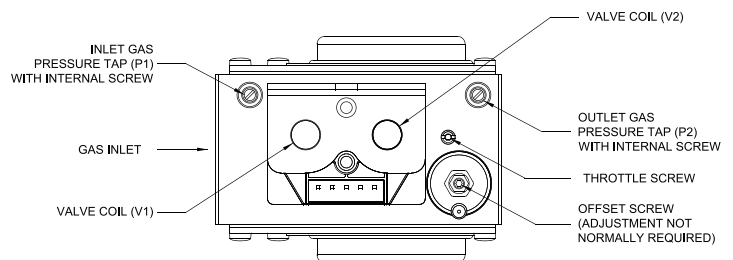

Figure 49: Gas Valve Detail
Make sure that all adjustments at high fire are made with the throttle, not offset screw (see Figure 49). The offset screw has been factory set using precision instruments and must never be adjusted in the field unnecessarily.
- If high fire O_2 is too low (CO_2 is too high), increase O_2 (decrease CO_2) by turning the throttle screw clockwise in 1/4 turn increments and checking the O_2 (or CO_2) after each adjustment. If boiler is equipped with 2 gas valves, throttle screw adjustments must be done to both gas valves equally and simultaneously. Refer to Figure 49 for location of throttle screw. Verify CO air free is less than 200 ppm.
- If high fire O_2 is too high (CO_2 is too low), decrease O_2 (increase CO_2) by turning the throttle screw counter-clockwise in 1/4 turn increments and checking the O_2 (or CO_2) after each adjustment. If boiler is equipped with 2 gas valves, throttle screw adjustments must be done to both gas valves equally and simultaneously. Refer to Figure 49 for location of throttle screw. Verify CO air free is less than 200 ppm.
- If low fire O_2 is too low (CO_2 is too high), increase O_2 (decrease CO_2) by turning offset screw counterclockwise in less than 1/8 turn increments and checking the O_2 (or CO_2) after each adjustment. If boiler is equipped with 2 gas valves, offset screw adjustments must be done to both gas valves equally and simultaneously. Refer to Figure 49 for location of offset screw. Verify CO air free is less than 200 ppm.
- If low fire O_2 is too high (CO_2 is too low), decrease O_2 (increase CO_2) by turning offset screw clockwise in less than 1/8 turn increments and checking the O_2 (or CO_2) after each adjustment. If boiler is equipped with 2 gas valves, offset screw adjustments must be done to both gas valves equally and simultaneously. Refer to Figure 49 for location of offset screw. Verify CO air free is less than 200 ppm.
1. **Conversion** of Phantom X models PHNTM399C and PHNTM500C from one fuel to another is accomplished using the throttle screw on the gas valve. Figure 49 "Gas Valve Detail" shows the location of the throttle screw on the valve. Locate the throttle screw on the boiler being converted.